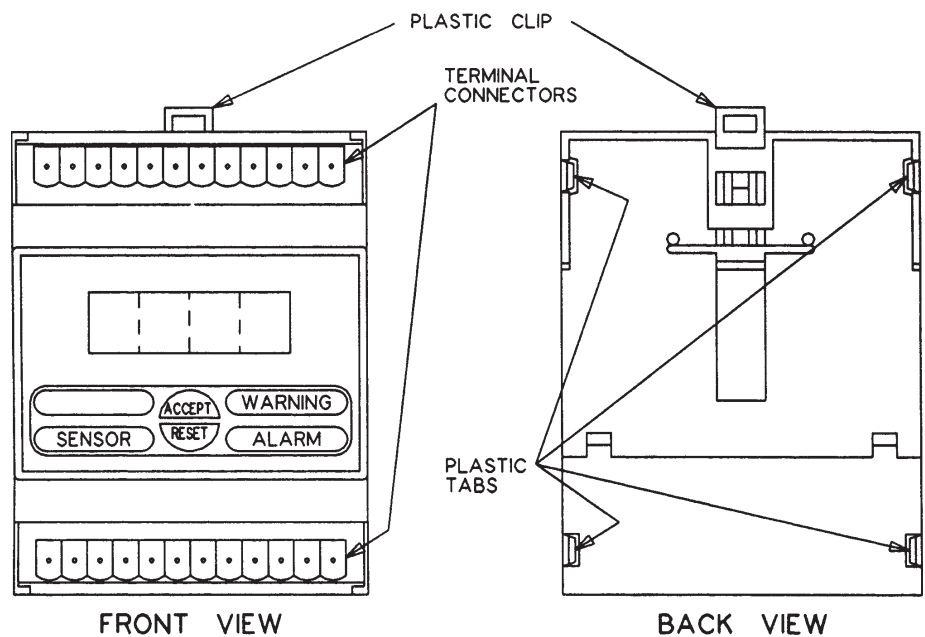

Figure 3.1 - Front and Back Views of Receiver Module
- b. Unplug the terminal connectors on the top and bottom of the receiver module. Refer to Figure 3.1.